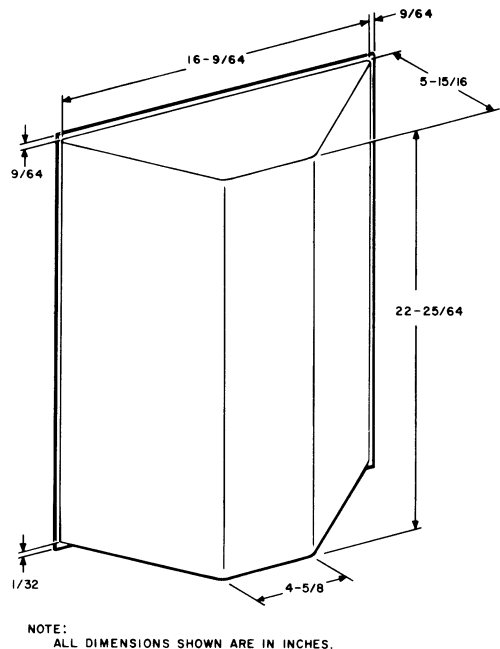

Fig. 8—Rear View of 20A Coinless Set Showing Dimensions
2.17 The overall dimensions of the 20A coinless set are the same as those of the 2-type coin sets. See Fig. 8.